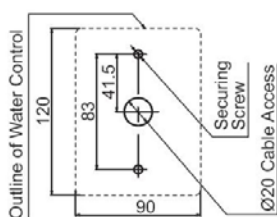

Fig. 1
2. Drill 3 holes in the wall (fig.1), one for the cable and two for the securing screws. Fit wall plugs if needed and ensure controller is level.
2. Remove the protective cap from the 3 pin connector marked EZ Connect located in the wiring harness of the Primary Unit (Fig. 1)
4. Check gas type dip switch no.1 of SW2 is in the correct position for the type of gas (Nat. or LPG)* you are using. See Fig. 1